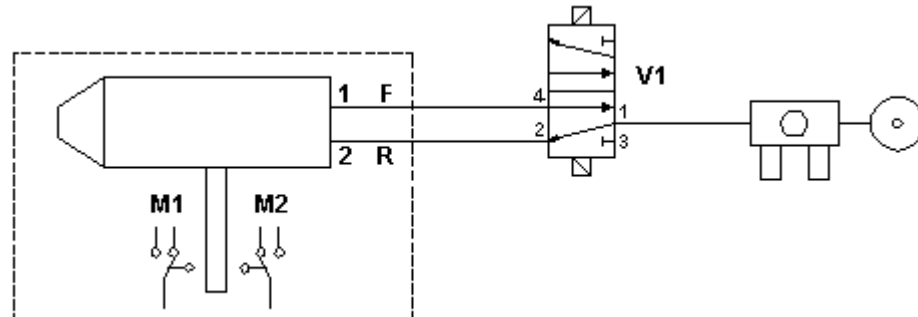

Fig. 6.
8. If the unit is delivered with electrical switches, proximity switches or a linear transducer (chosen when ordering), valve V1 shall be electrically controlled type of 4-way, 2-position type. The dimension of the valve shall be 1/8" when the valve is used for a single unit. See Fig. 6.
10. Connection of electrical limit switches for sensing the position of the feed spindle. Max. capacity 6A at 125 or 250V AC. The unit is delivered with both microswitches connected to a single cable with a length of 2 meter (6.56 Ft). Connection, see Fig. 6. and 8.
11. Connection of proximity switches for sensing the position of the feed spindle. The unit is delivered with both switches and with cable lengths of 2 meter (6.56 Ft). Connection, see Fig. 6 and 9.
Max. voltage for the linear transducer is 40V DC. Connection, see Fig. 6 and 10.
When the unit is delivered with a linear transducer, the hydrocheck is fitted with a 2-way valve (24V DC) for the transition from rapid advance to working feed. This valve is normally closed, and for rapid advance it shall be supplied with current at the same time as maneuvering valve V1 in Fig. 6. When the output signal from the position sensor matches the set value for the transition to working feed, the current to the 2-way valve is broken. If the unit is fitted with a linear transducer, the external control system must have an analogue input connection to receive the analogue signal from the position sensor.